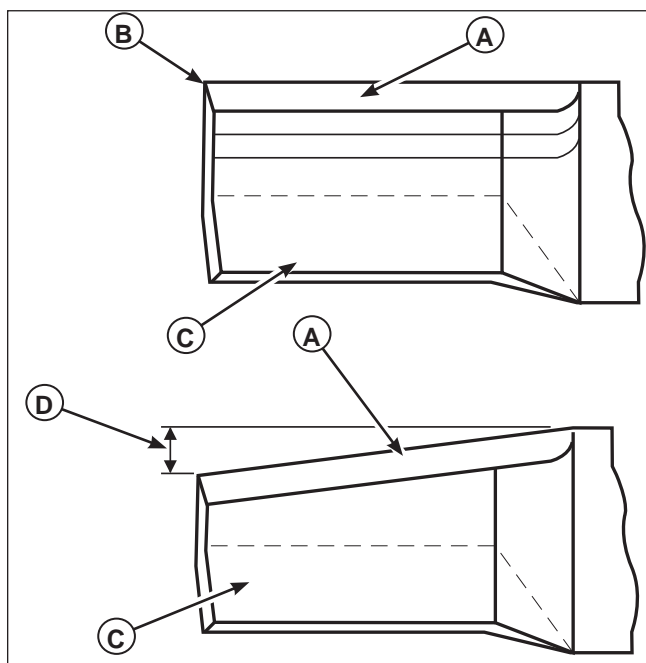

Figure 27. Inspecting the Mower Blade Tips
1. Inspect the mower blade (**Figures 27 & 28**). **Discard the mower blade if it has any of the below conditions.**
- Has more than .5" (12,7 mm) of the mower blade metal removed from previous sharpening or wear (**D**, **Figure 27**).